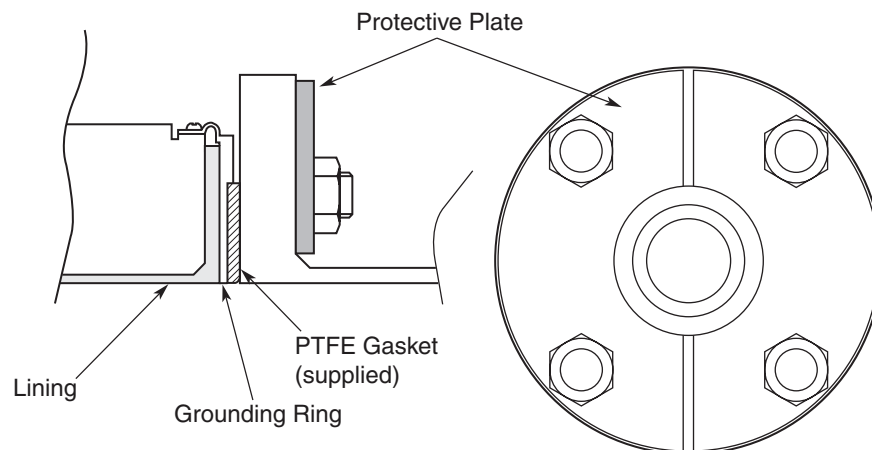

Figure 21. Installation on PVC Pipe with non-316 ss Grounding Ring (with Protective Plate)
2. Use this method to install the flowtube along with a protective plate to prevent PVC pipe from being deformed or damaged when the bolts are tightened to the specified torque. Insert a protective plate between the outer side of the PVC flange and the flowtube as shown in Figure 21. The protective plate protects the PVC pipe from deformation or damage when it is secured to the specified torque. For the appropriate torque, see Table 3.